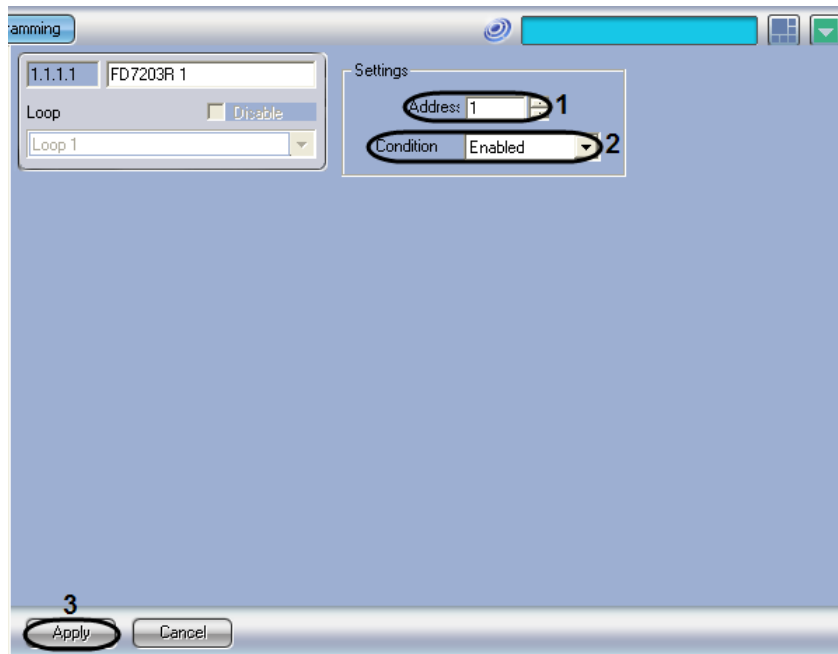

Fig. 3.6—11 Configuring the FD7203R addressable module
2. Enter the CAN network address of the FD7203R module into the “Address” field (see Fig. 3.6—11, 1).
3. Select Enabled/Disabled in the “Condition” field (see Fig. 3.6—11, 2).